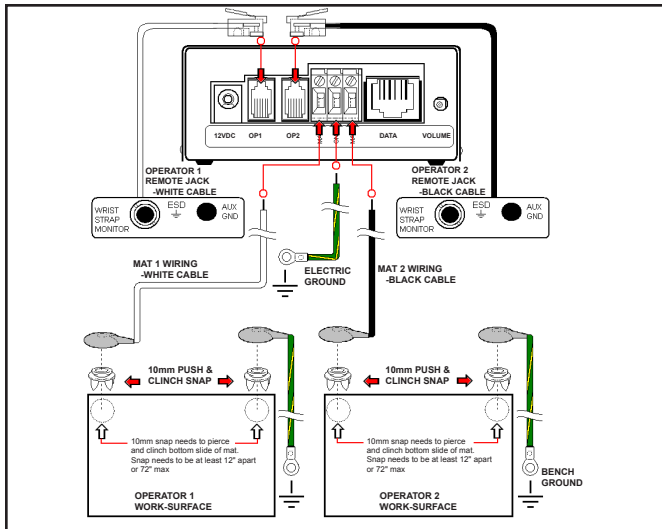

Figure 3. Mat Grounding
- E. If not already done, attach the work surface to workstation common point ground using the pictured ground wires. For mats, attach the grounding point snaps at the ends of the ground monitor cords to the grounding point snaps on the work surface. These ground monitor cords are used for sensing whether or not the unit is properly grounded. Refer to figure 3 for snap-plate fitting diagram and for laminates or other hard surfaces with a buried conductive layer.